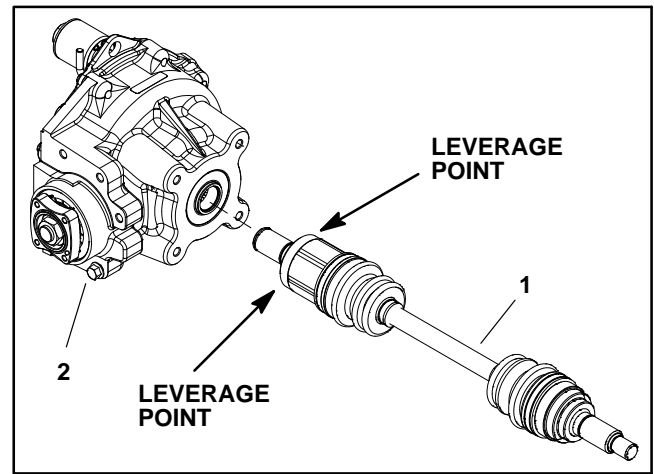

Figure 39
4. Use two small pry bars (180° apart) to leverage the CV axle out of the differential. Use even pressure on both pry bars (Fig. 39).